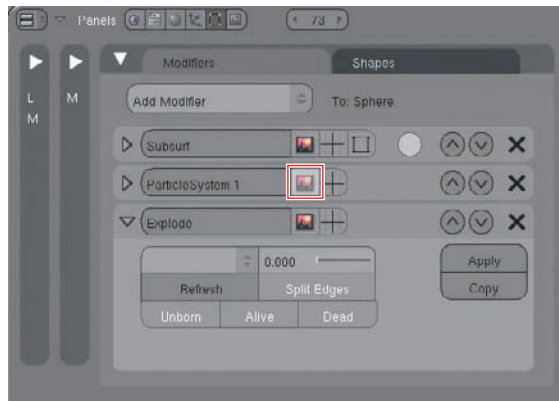
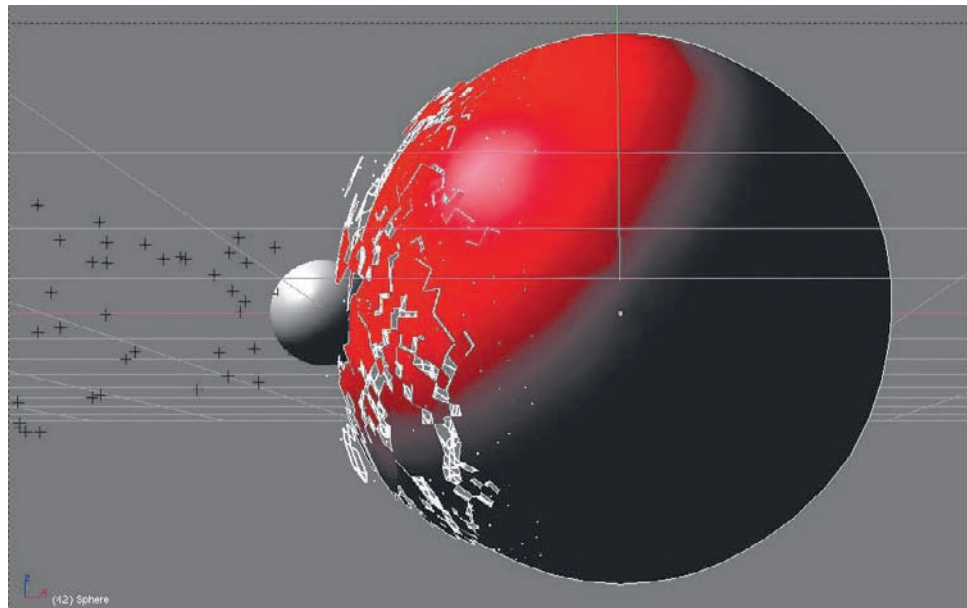

Figure 2.55 The Explode modifier
Figure 2.56 The Explode modifier's effect on the mesh
4. Finally, set up an Explode modifier on the large ball as shown in Figure 2.55. Note also that the Particle System modifier should be set not to render by clicking the button highlighted in the figure. This should also be set in the same way for the Emitter particle system on the small ball. (Another way to accomplish this is to set Visualization to None in the particle panels.) The Explode modifier causes the mesh to break apart and its pieces to follow the movement of the particles as they emit from the mesh, as you can see in Figure 2.56. With the particle set not to render, the resulting rendered animation will look something like Figure 2.57. Try experimenting with particle rotation here to make the smashing action even more dynamic.